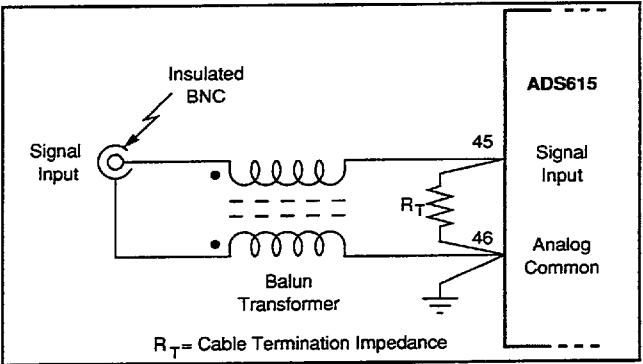
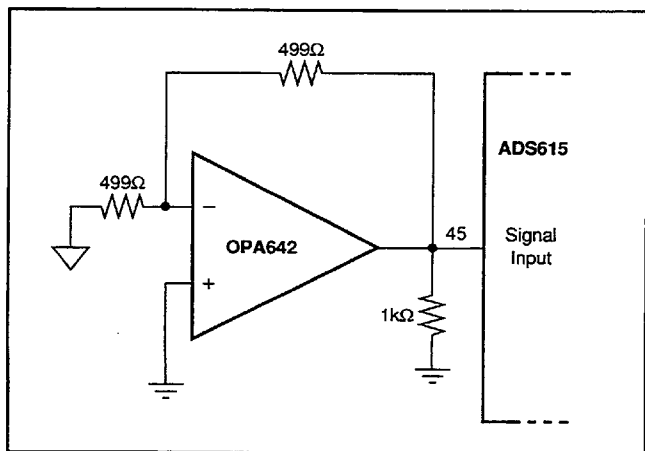

FIGURE 6. Floating-Input Balun Transformer.
FIGURE 8. Single Ended Input Amplifier (Gain = -1V/V). The OPA643 may be used for noise gains ≥ 5 .
9. Floating inputs can eliminate ground-loop noise. A simple common-mode choke shown in Figure 6 and 7, or a single-ended amplifier (Figure 8 and 9) can be used for gain.